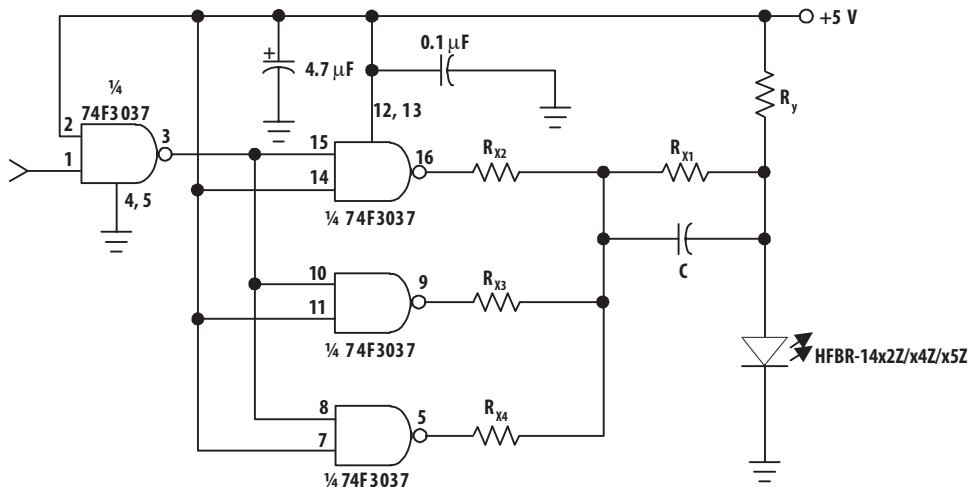

Figure 11. Recommended Drive Circuit
- Pre-bias is recommended if signal rate >10 MBd, see recommended drive circuit in Figure 11.
The circuit used to supply current to the LED transmitter can significantly influence the optical switching characteristics of the LED. The optical rise/fall times and propagation delays can be improved by using the appropriate circuit techniques. The LED drive circuit shown in Figure 11 uses frequency compensation to reduce the typical rise/fall times of the LED and a small pre-bias voltage to minimize propagation delay differences that cause pulse-